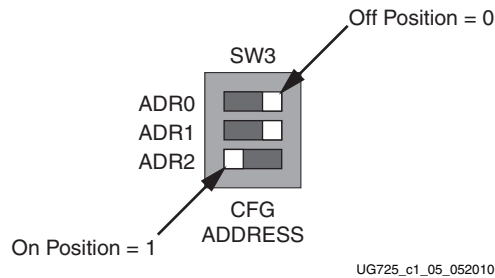

Figure 1-5: Configuration Address DIP Switch (SW3)
- Set the System Ace Controller Configuration Address switch, SW3. The setting on this 3-bit DIP switch (shown in Figure 1-5) determines which bitstream stored in the CompactFlash card configures the FPGA. There are five IBERT demonstration designs on the CompactFlash card, one for each of the five GTX Quads available on the ML623 board. Note that Figure 1-5 shows an example setting of ADR[2:0] = 100. For Q112, the configuration address is 000.